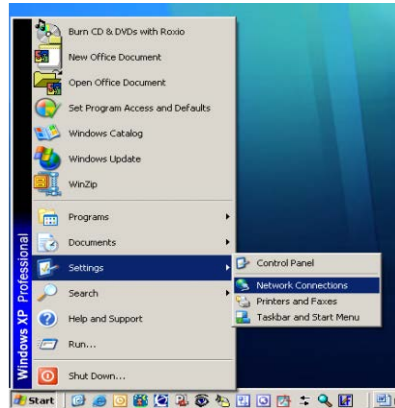
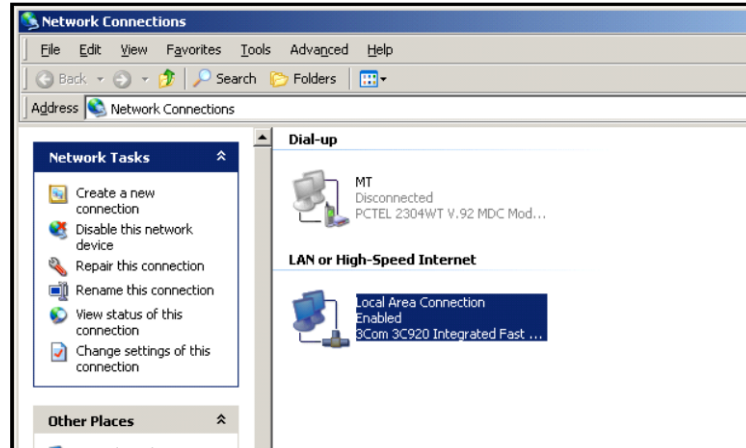
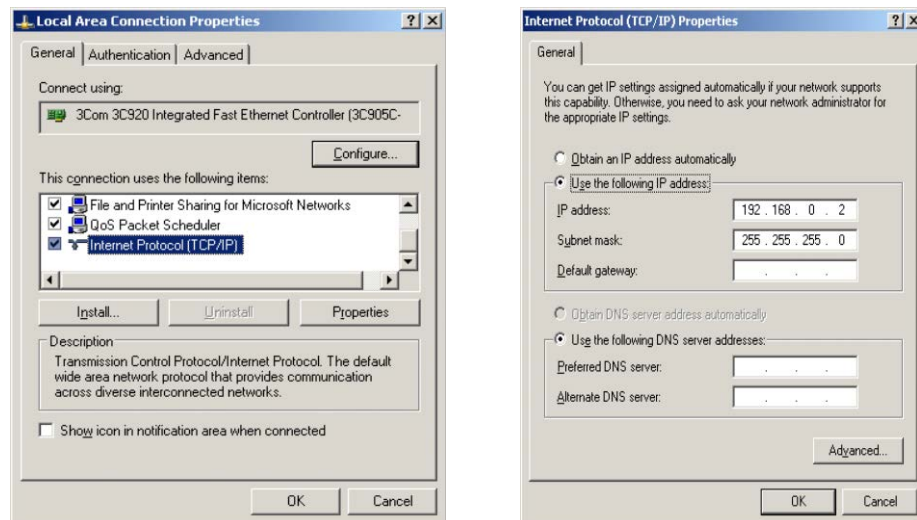

Figure D-4: Accessing the Network Connections Screen
Figure D-5: Network Connections Screen
Figure D-6: Local Area Connection and Internet Protocol Properties Dialog Boxes
4. The PC IP address and subnet mask may be configured by accessing the screens shown in Figure D-4, Figure D-5 and Figure D-6 on the PC as follows:
- a. In Windows, click on **Start | Settings | Network Connections** (Figure D-4).
- b. The window shown in Figure D-5 will display:
- d. In the Properties pane (Figure D-6), select Internet Protocol (TCP/IP) and click the Properties button. The Internet Protocol Properties window (at right in Figure D-6) displays.